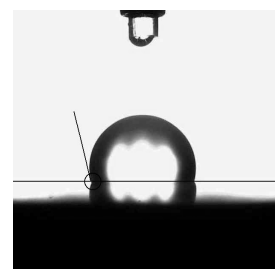

Fig. 2.9 Point of reflection
- Locate the point of reflection on the droplet at the edge of the contour (Figure 2.9).